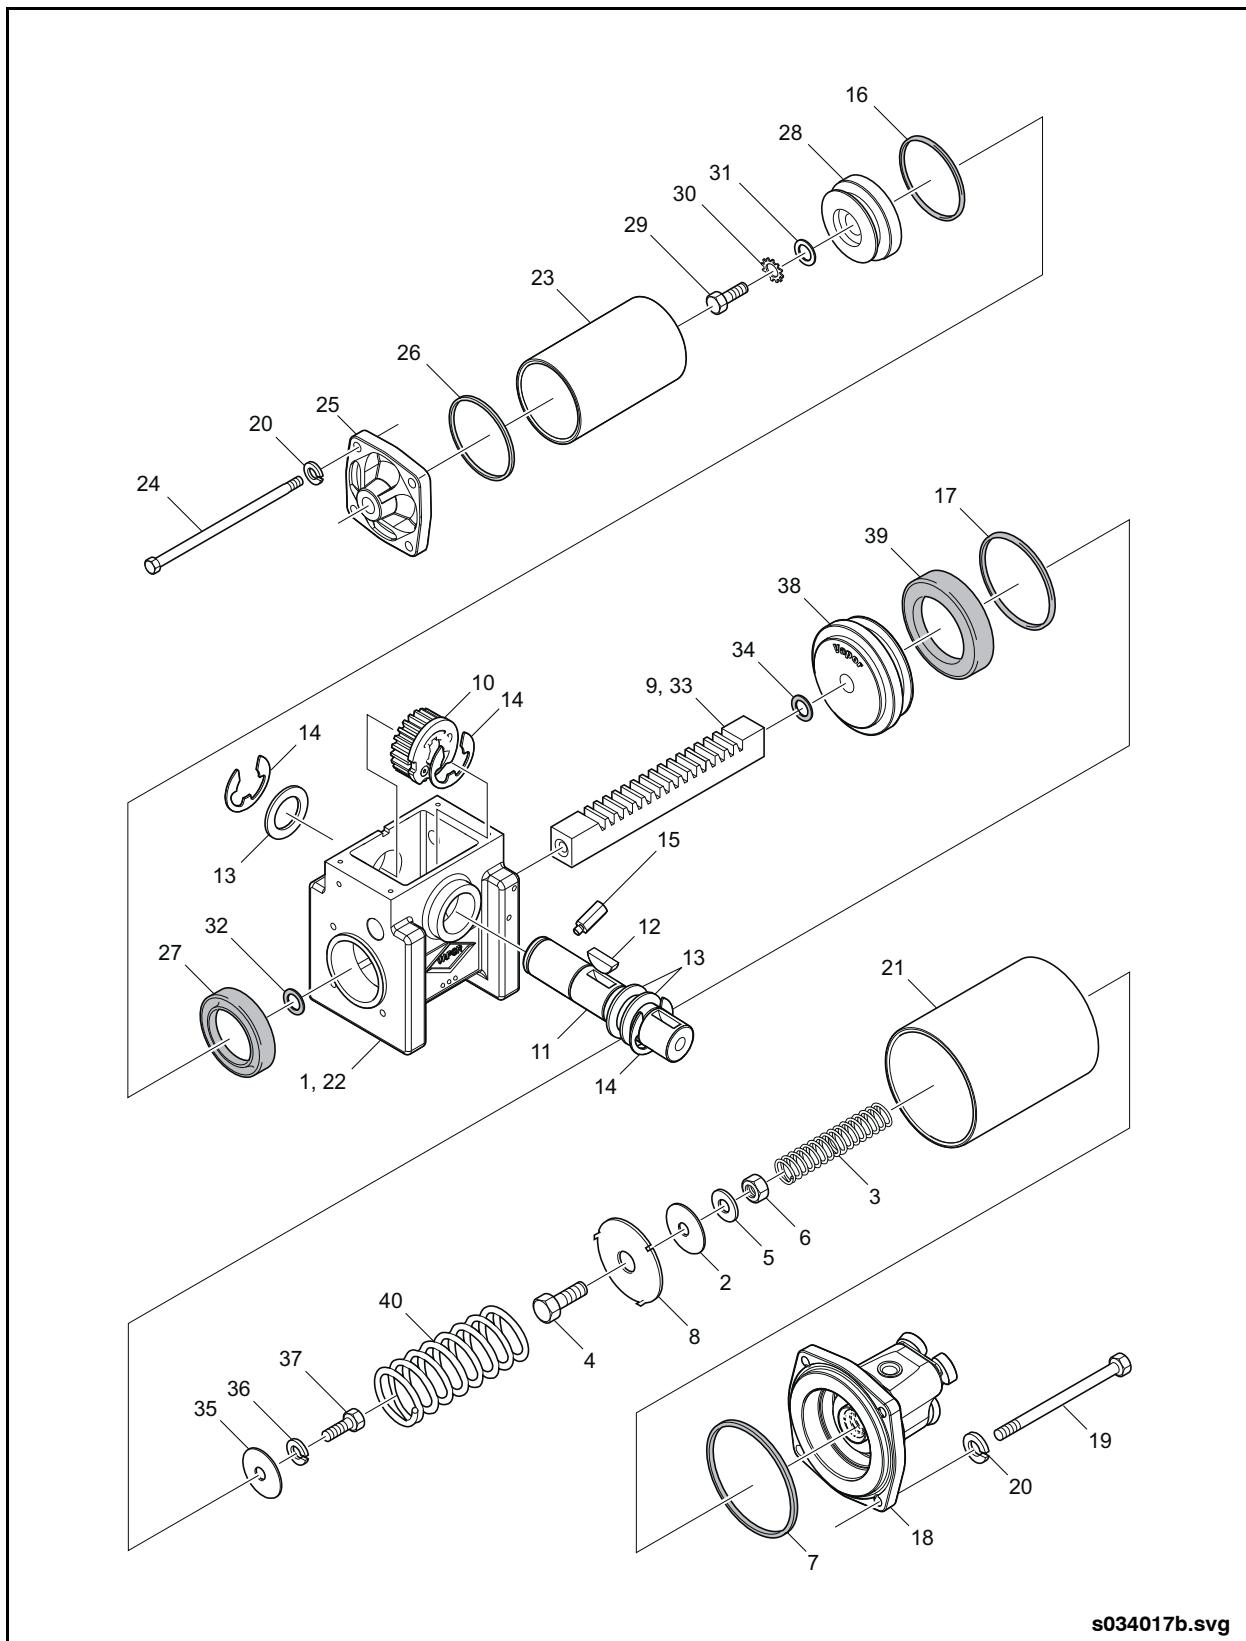

Fig. 16-9: Entrance Door Motor Assembly
3. Remove and retain all tie rod nuts, lock washers and plain washers from the cylinder end caps. Remove the tie rods from the gear housing. Remove the end caps, compression spring and cushion spring assembly. See "Fig. 16-9: Entrance Door Motor Assembly" on page 20.